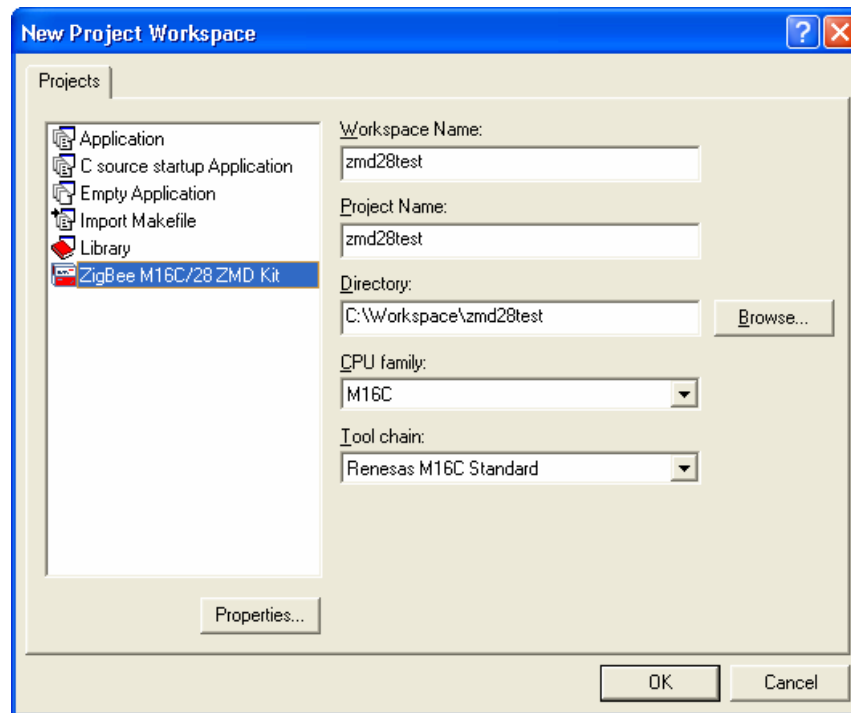

Figure 9: New Project Workspace in HEW
- ii.) Select “ZigBee M16C/28 ZMD Kit” (Figure 9).